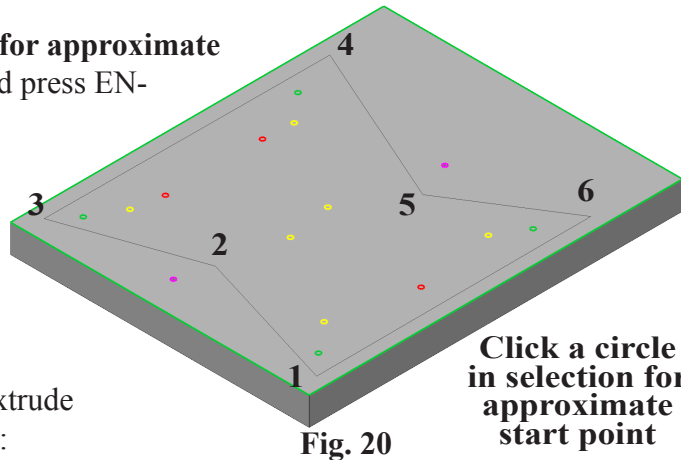

Fig. 20
Step 2. Create a polygon selection around all circles except Pin holes, **Fig. 20**. To make the selection, click the positions 1 thru 6 to surround the all circles except Pin circles with a polygon. Try starting at Position 1 and working around. Double click or press ENTER to end selection.
Step 3. Click a circle for approximate start point and press ENTER, **Fig. 20**.